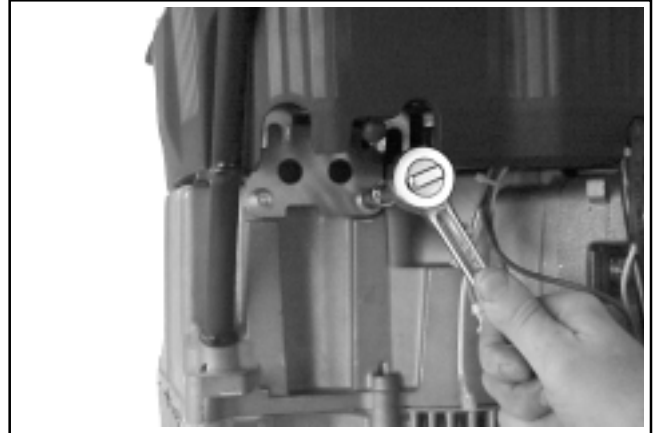

Figure 9-21. Removing Adapter Plate Screws.
4. Remove the two hex. flange screws and separate the adapter plate from the crankcase. Note the orientation of the notch on the bottom, toward the dipstick. See Figure 9-21.